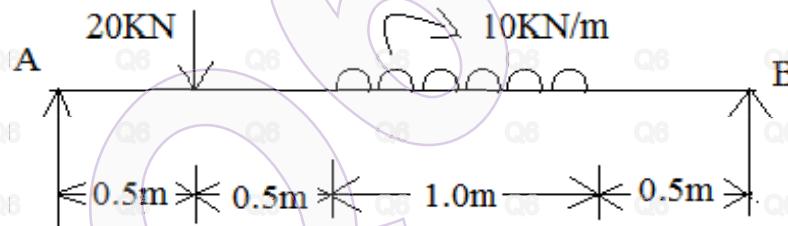

Figure: 4
b) Determine the maximum deflection and its location in the beam shown in Figure 4. The beam has a cross-section 50 mm wide and 150 mm deep. Take $E=210$ GPa. [15]